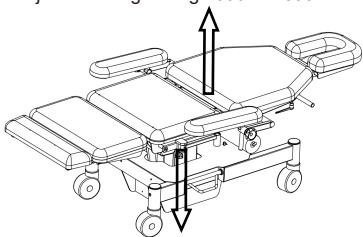

Figure 7
- Press button Line 3 on the handset to adjust the height of the table.(Figure 7)